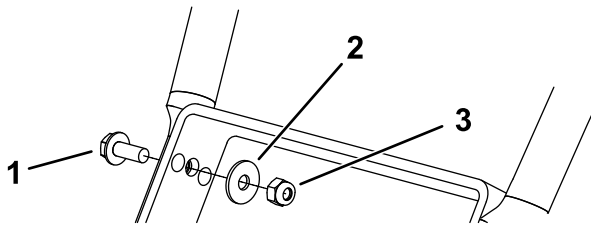

Figure 7
**Note:** Use the front hole for the highest position; use the rear hole for the lowest position. Install the bolts with the head facing outward as shown in Figure 7.